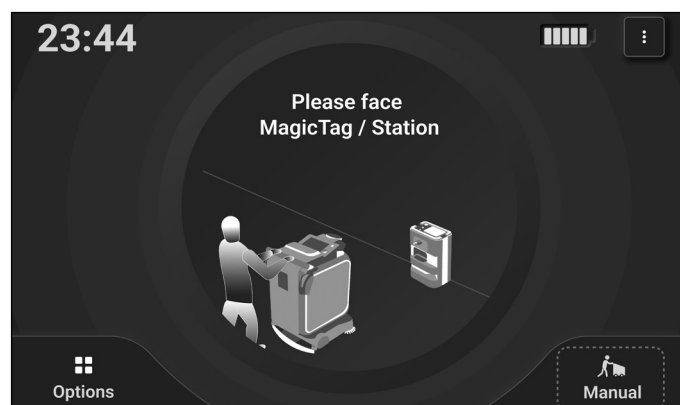

Figure 45
1. Press 'Manual' on the Home Page (**Fig. 45**).